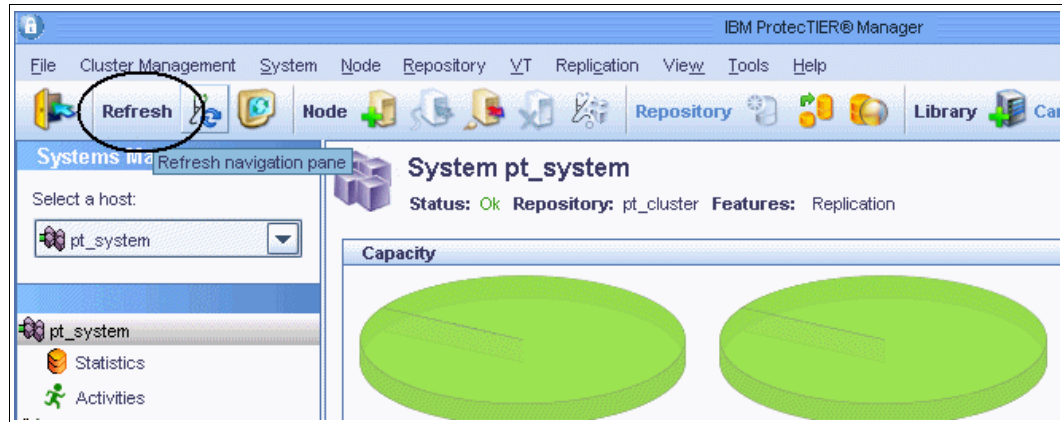

Figure 5-29 Refresh navigation pane
1. Click **Refresh navigation pane** to refresh the Navigation pane (Figure 5-29).